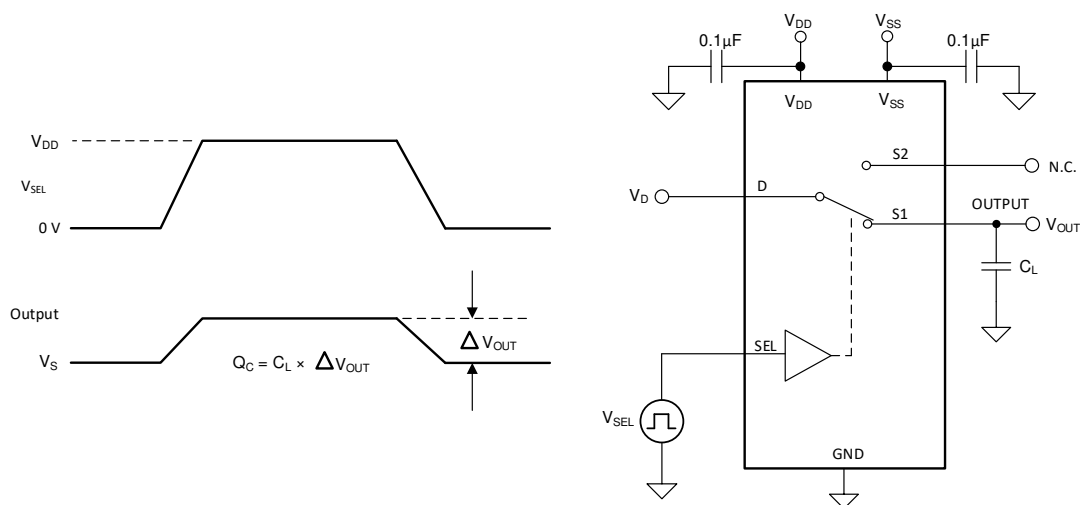

Figure 7-6. Charge-Injection Measurement Setup
The TMUX1248 has a transmission-gate topology. Any mismatch in capacitance between the NMOS and PMOS transistors results in a charge injected into the drain or source during the falling or rising edge of the gate signal. The amount of charge injected into the source or drain of the device is known as charge injection, and is denoted by the symbol Q_C . Figure 7-6 shows the setup used to measure charge injection from Drain (D) to Source (S_x).